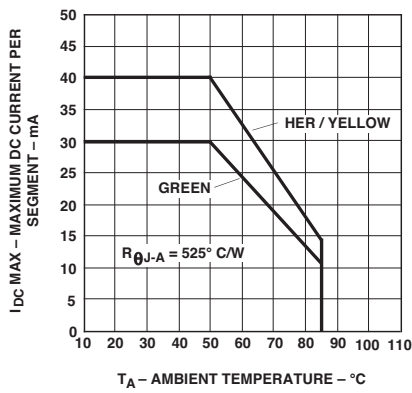

Figure 8. Maximum allowable DC current vs. ambient temperature.
5. See Figure 8 to establish pulsed conditions.